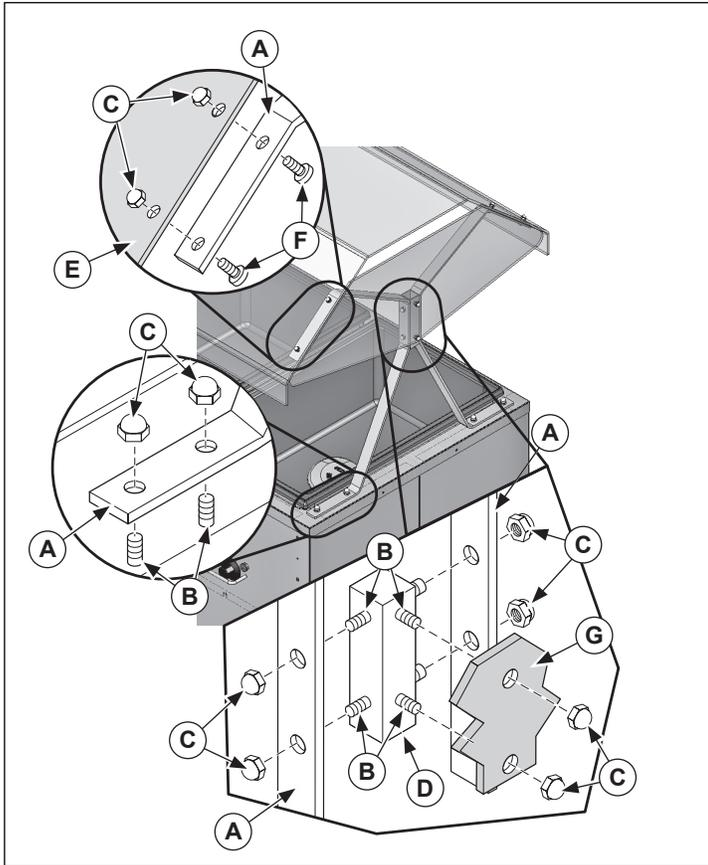

Figure 1. One Piece Breath Guard Installation
1. Install the breath guard uprights (A) to the studs (B) securing with cap nuts (C) as shown. See Figure 1. Repeat for all four uprights.
1. Install the breath guard uprights (A) to the studs (B) securing with cap nuts (C) as shown. See Figures 1 and 2. Repeat for all four uprights.